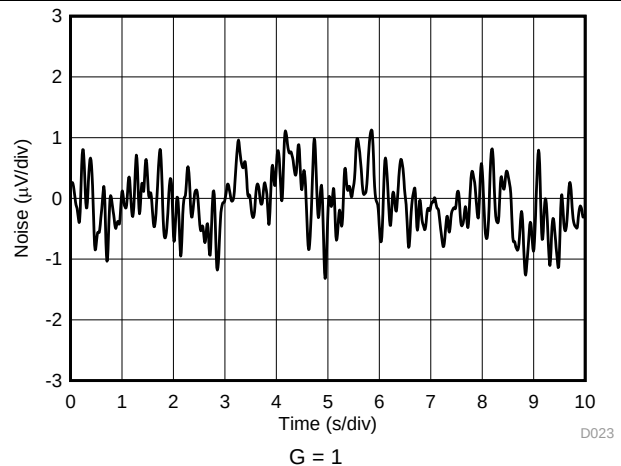

FIG 24. 0.1-Hz to 10-Hz RTI Voltage Noise
0.1-Hz to 10-Hz RTI Voltage Noise $G = 1$	Figure 24